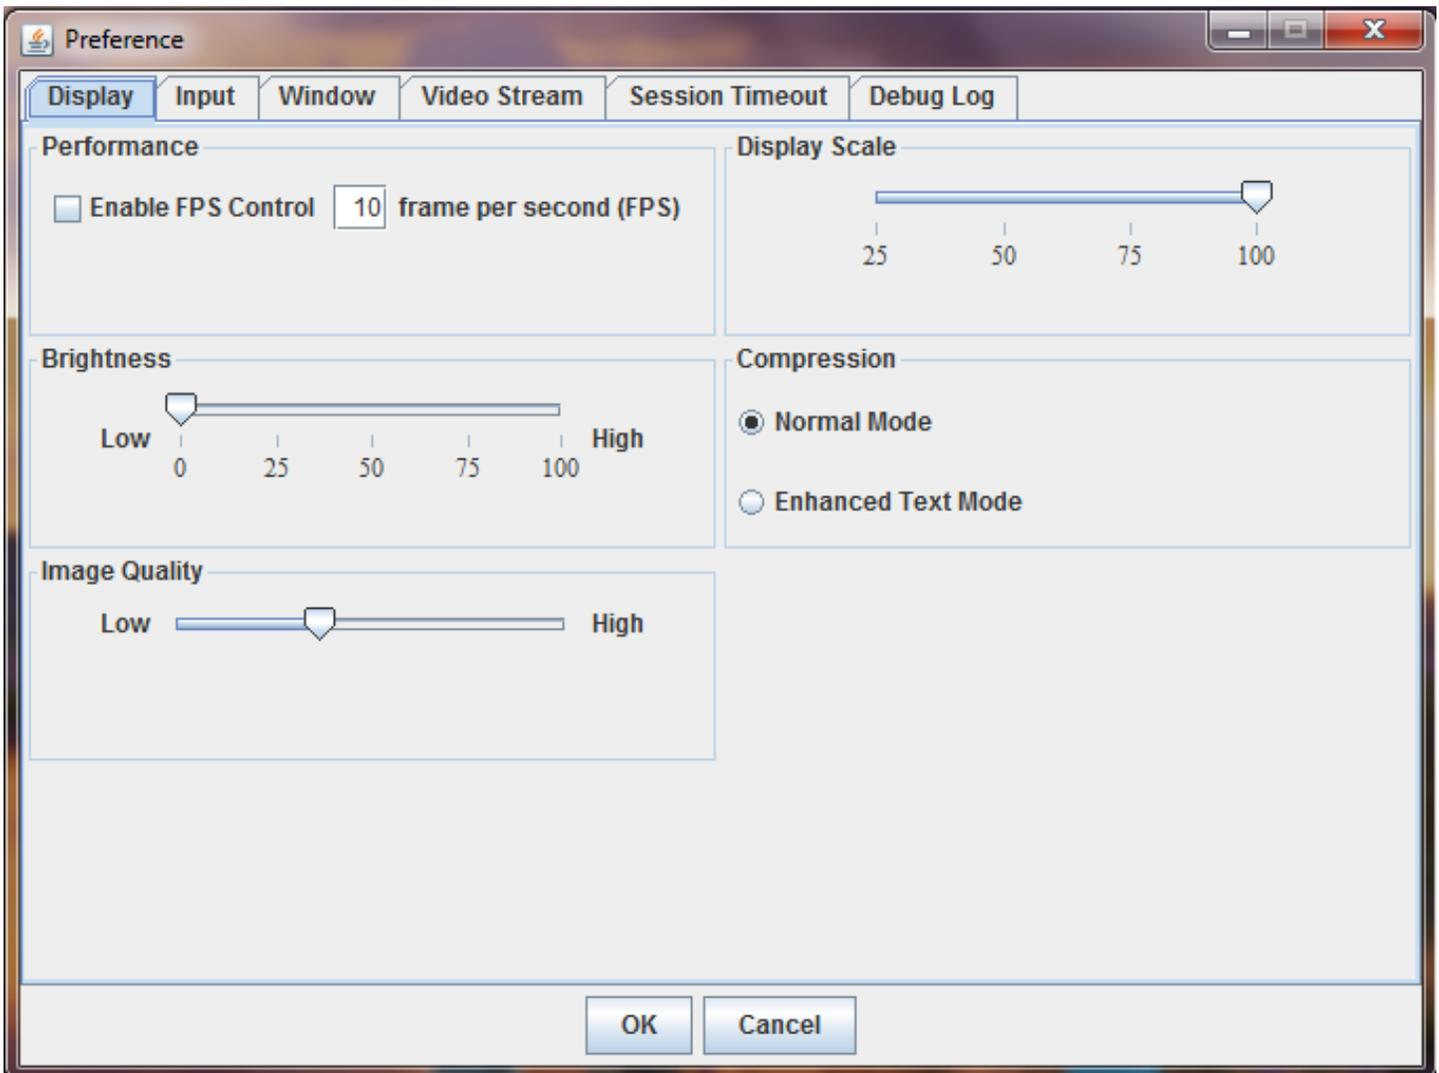

Figure 23. Remote Console Display Settings
- **Display** (Figure 23) – Adjust display brightness, image quality, display scale, and compression mode and enable FPS control by specifying frames per second.